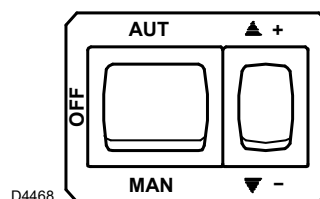

Fig. 20
- 2 Select the "MAN" operating mode (Fig. 20) and carry out the calibration of CAM III of the servomotor and the calibration screw of the POINT 0 as indicated in Tab. M, then start the burner.
- 3 After igniting, manually bring the servomotor to the second flame position by pressing the "+" switch (Fig. 20). During this operation check the stability of the flame: if it is unstable, slowly increase or decrease the setting of the gas/air ratio calibration screw until the desired maximum output and the correct CO₂ values in the flue gases are attained, then calibrate cam I to the value reached by the servomotor.
- 4 Manually bring the servomotor to the first flame position by pressing the "-" switch (Fig. 20). Check the combustion and if necessary use just the screw for calibrating the POINT 0 to obtain the correct CO₂ values in the flue gases.
- 9 Check the combustion values at an intermediate output and if necessary proceed with further adjustments of the gas/air calibration and the POINT 0 screws. When finished, after checking that the burner has a good ignition and good flame stability, select automatic operating by putting the selector switch to "AUT" (Fig. 20): the modulation will occur between the calibration position of CAM II and that of CAM I.
If the cam angle needs to be increased, it is first necessary to increase the angle of the servomotor with the key "increase output" +)(Fig. 20), then increase the angle of **CAM III** and finally bring
the servomotor to the MIN output position with the key "decrease output" -)(Fig. 20).